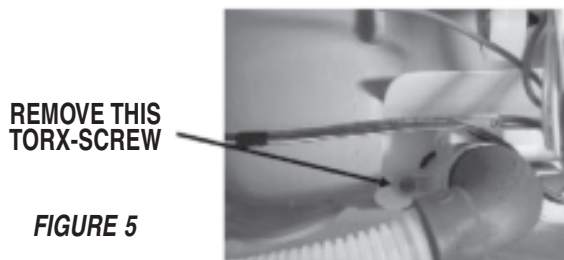

FIGURE 5
12. Remove the #15-Torx screw securing the soil sensor and remove the soil sensor. (Fig. 5)